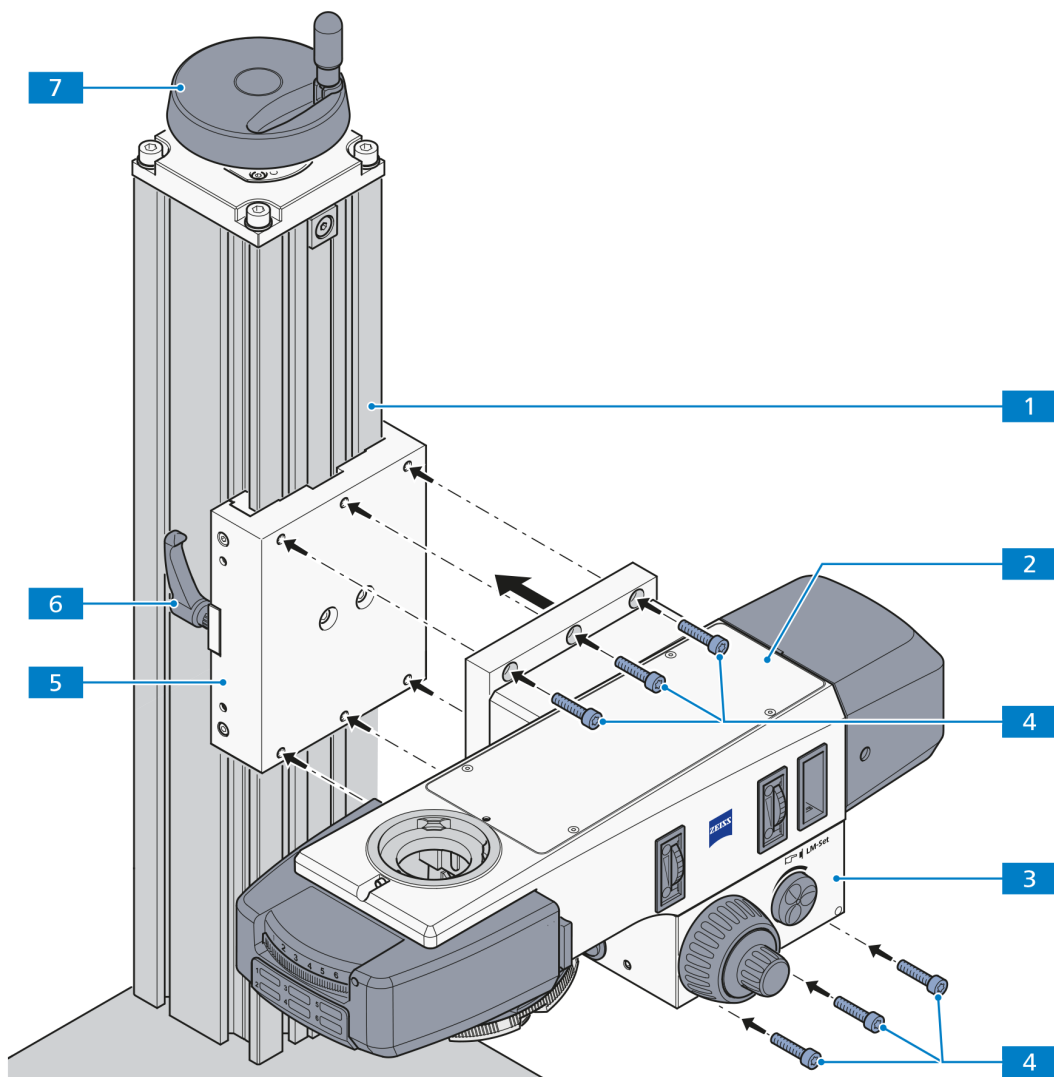

Fig. 3-2 Mounting the Vario upper stand part on the stand column
If you are going to use the Axioscope 5 Vario material stand consisting of the Vario upper stand part (Fig. 3-2/2) combined with gear box (Fig. 3-2/3) and the Vario stand column (Fig. 3-2/1), proceed as follows:
- Position the Vario upper stand part (Fig. 3-2/2) on the mounting plate (Fig. 3-2/5) of the Vario stand column and tighten it with the 6 Allen screws (Fig. 3-2/4).
- In order to adjust the microscope vertically, loosen the release lever (Fig. 3-2/6) on the stand column and adjust the height (according to the size of the specimen) with the hand wheel (Fig. 3-2/7).